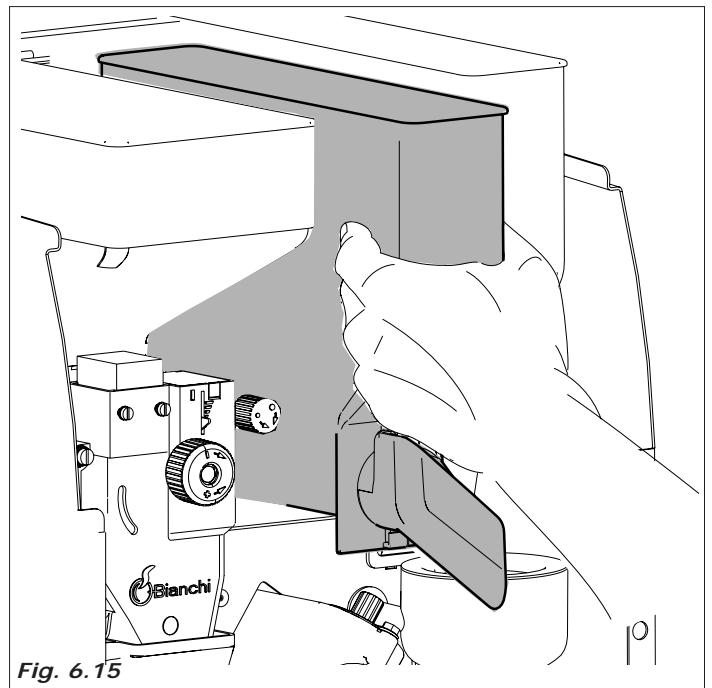

Fig. 6.15
- remove all the product containers from the distributor (fig. 6.15).